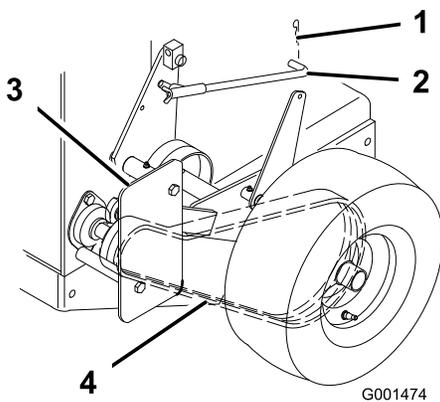

Figure 40
1. Remove the hairpin cotter securing the brake rod to the brake arm to relax the belt idler tension (Figure 40).
2. Remove the bottom bolt and loosen the top bolt of the shield to rotate it for belt clearance (Figure 40).
3. Lift the belt past the idler and off the drive pulley (Figure 40).
6. Secure the shield with the previously removed bolt and tighten the bolts (Figure 40).
7. Secure the brake rod to the brake arm with the hairpin cotter (Figure 40).